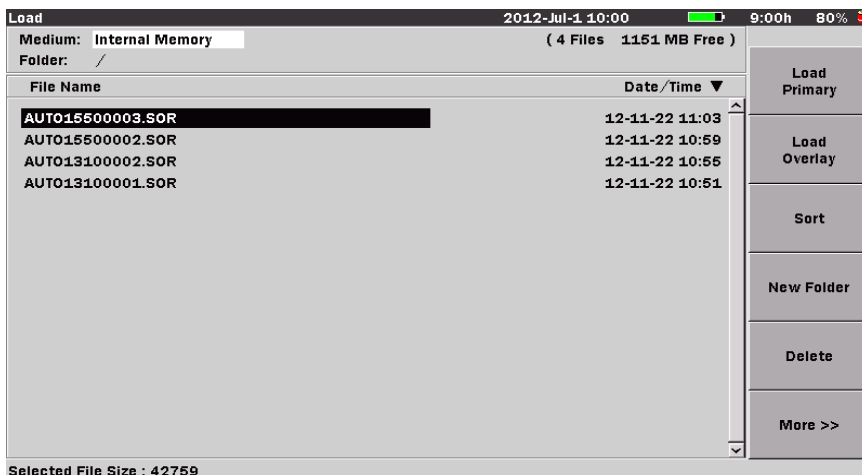

Figure 4-37: Load Screen
1. Press the **File** key, the Load screen appears (see Figure 4-37 on page 4-93).
Use either the Save screen (see Figure 4-41 on page 4-103) or the Load screen (see Figure 4-37 on page 4-93) to delete any data files stored in the internal memory or on a USB memory stick. You can delete a single file, multiple files or all of the files in the current directory.
1. Press the **Save key**, or the **File key**, if not already displaying either the Load screen (see Figure 4-37 on page 4-93) or the Save screen (see Figure 4-41 on page 4-103).
1. Press the **Save key**, or the **File key**, if not already displaying either the Save screen (see Figure 4-41 on page 4-103) or the Load screen (see Figure 4-37 on page 4-93).
Use either the Save screen (see Figure 4-41 on page 4-103) or the Load screen (see Figure 4-37 on page 4-93) to copy data files stored in the internal memory or on a USB memory stick. You can copy a single file, multiple files or all of the files in the current directory.